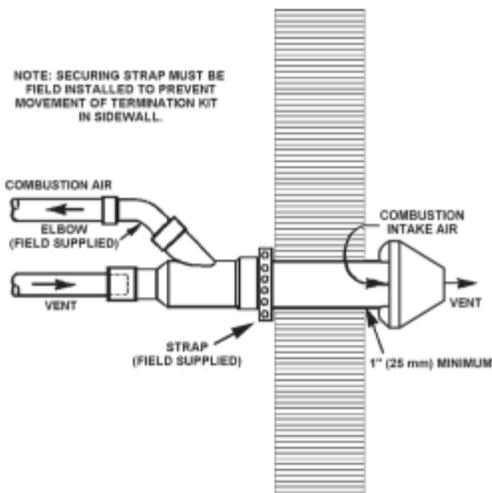

Figure 31
6. Ensure the Y connection is oriented so the air intake side of Y is on top, see Figure 31.
7. Secure assembly to structure as shown in Figure 31 using field-supplied metal strapping or equivalent support material.
8. Cement heater combustion-air and vent pipes to concentric vent termination assembly. See Figure 31 for proper pipe orientation and attachment.